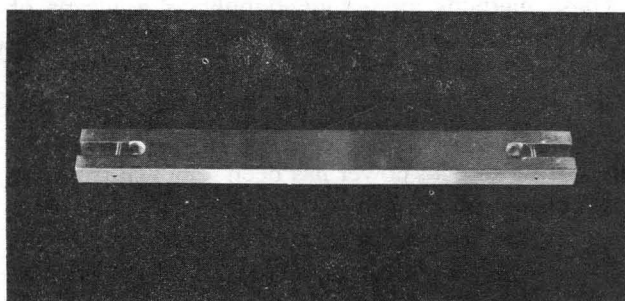

Figure 3-56. Stepped Roll Timing Gage
2. The stepped-roll timing gage (Figure 3-56) should fit on the flat ends of the stepped-roll shafts.